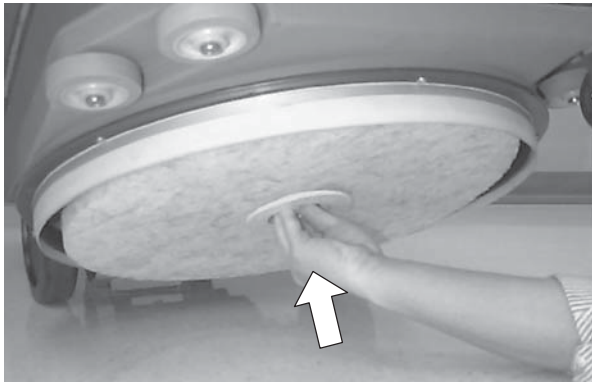

FIG. 7
3. Position the pad centered on the pad driver and replace the centerlock securely (Figure 7).